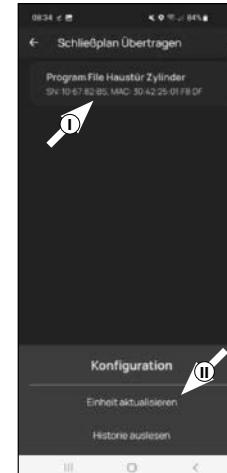

Fig. 6
- ⑥ Tap on the programming file you have just created (I) (Fig. 6) and tap on "Update unit" (II) in the menu that appears (Fig. 6).